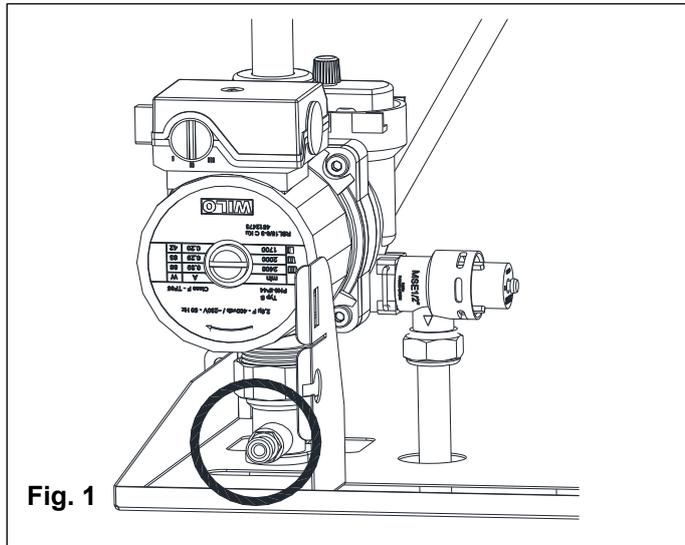

Fig. 1
- Open the system drain valve (see fig. 1).
- **If only the boiler needs to be drained, close the flow/return isolating valves on the heating circuit and open the drain valve located at the bottom of the boiler on the pump manifold (see fig. 1);**
Cleaning the main exchanger module and combustion unit (see fig. 1)